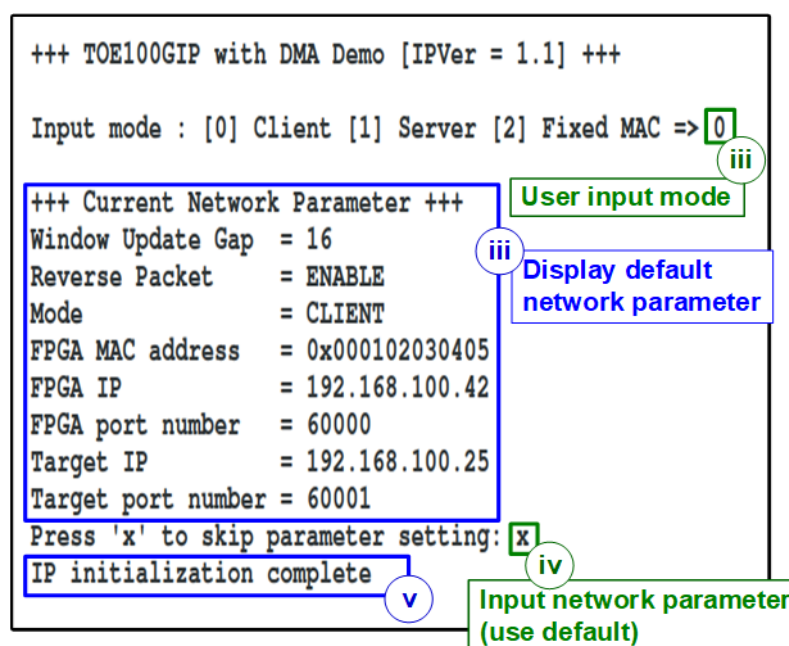

Figure 3-5 System initialization in Client mode by using default parameters
- iii) After user sets the initialization mode, the default parameters of that initialization mode are shown on the console, as shown in Figure 3-5.